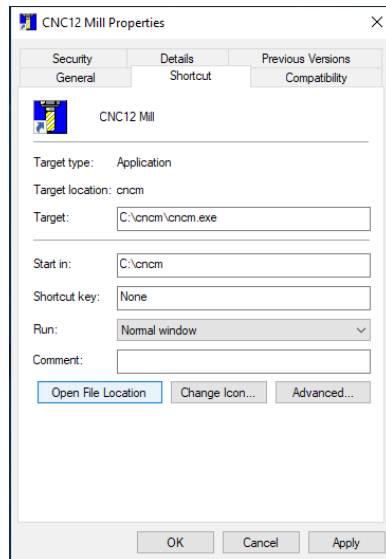

Figure 4.2.2
3. A window will pop up, go to the “shortcut” tab and click “**open file location**” as shown in Figure 4.2.2.